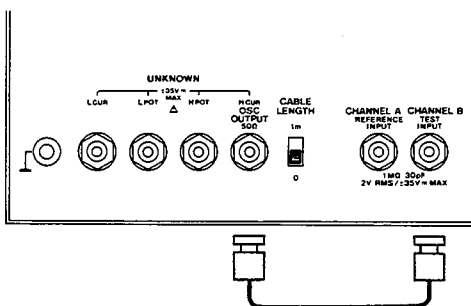

Figure 5-11. A11 IF Attenuator Adjustment Setup.
- a. Connect OSC OUT ( $H_{CUR}$ ) to CHANNEL B using the BNC-to-BNC cable as shown in Figure 5-11.